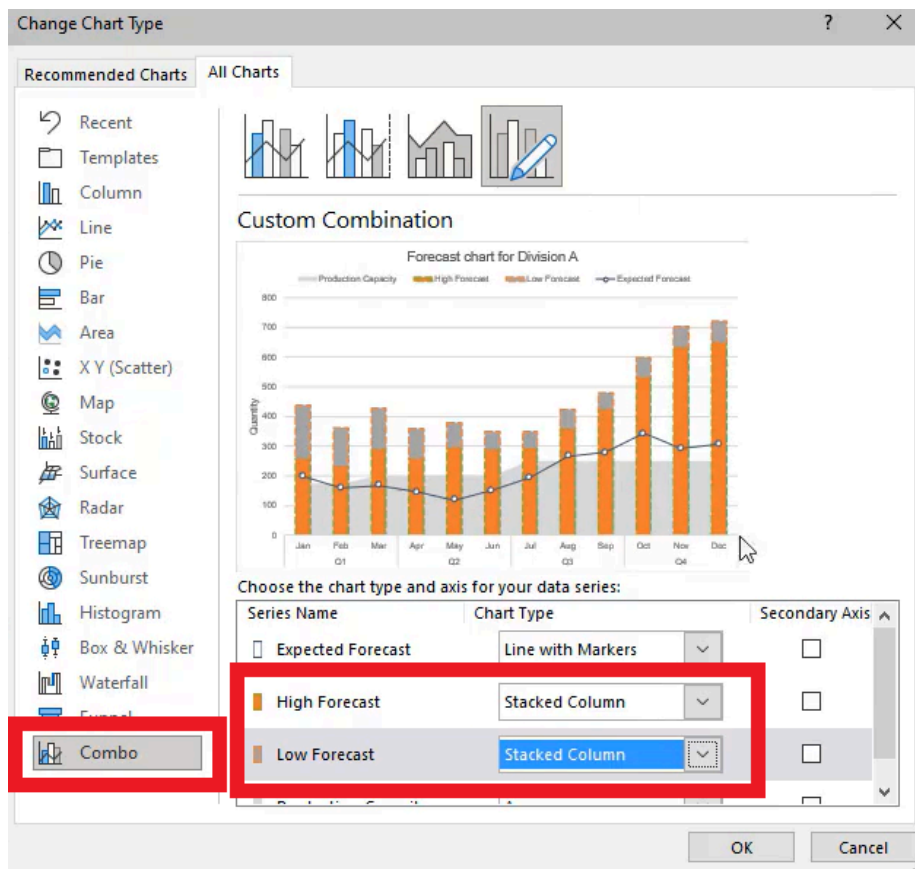

Figure 37.32
- a. It will automatically format the low forecast to the top and the high forecast to the bottom. (See **Figure 37.32**)